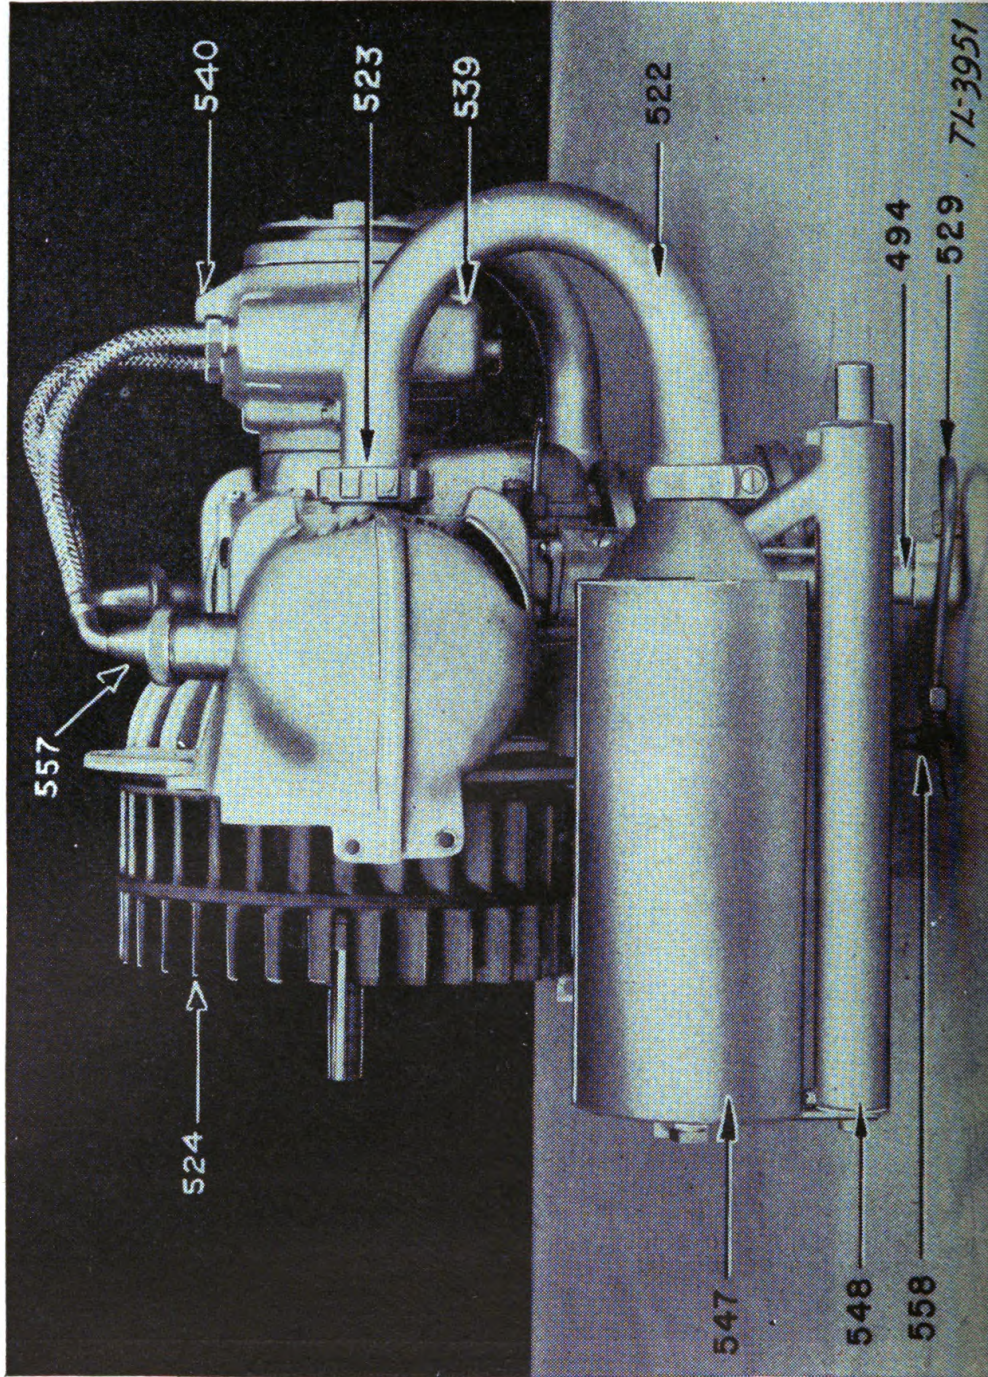

FIGURE 2.—Engine assembly.
**2. Integral components of power unit.**—*a. Gasoline engine.*—The gasoline engine supplied is a Homelite Corporation model HTR, 3,600 rpm, 2-cycle, 2-cylinder, air-cooled, horizontally opposed type, firing simultaneously (see fig. 2). A starting rope with grip is used for placing the engine in operation.
(3) Open shut-off cock (558, fig. 2) beneath fuel tank as indicated.